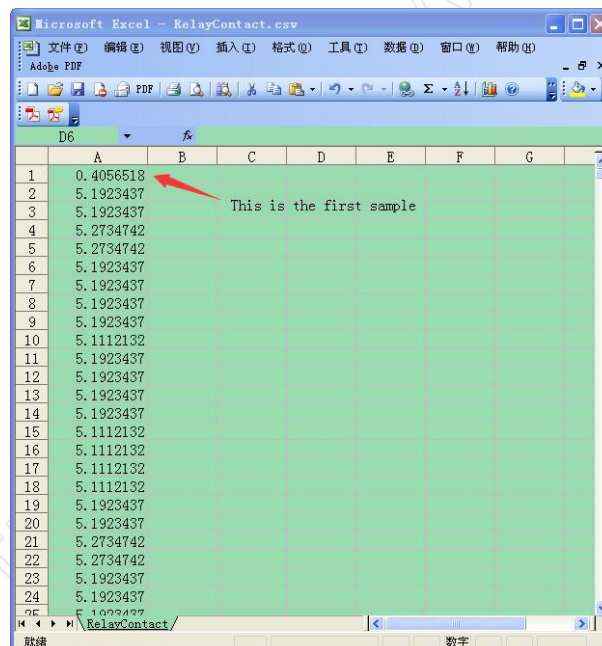

Fig. 12
- Delete the first 19 rows and the first 2 columns. You have all pure sample data left (Fig.12).